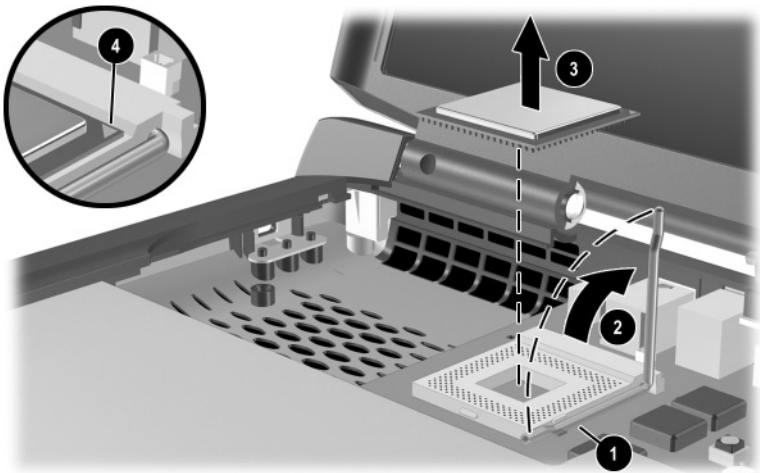

Figure 5-19. Removing the Processor
5. Slide the front end of the processor release bar slightly to the right **1** (Figure 5-19).